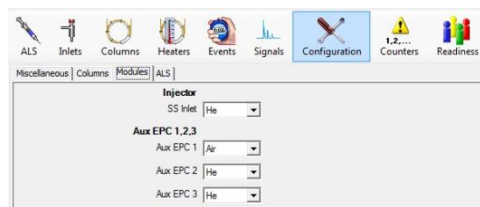

Figure 14 Selecting the Aux EPC gas type
9. Select the Aux EPC gas type on Agilent MSD Chemstation > Edit GC Parameters > Configuration > Modules. (See Figure 14)